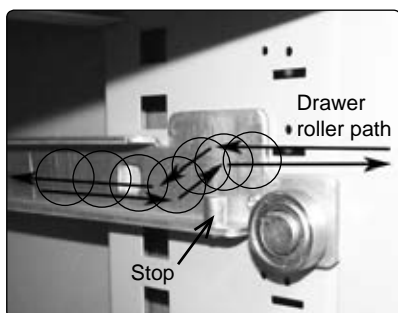
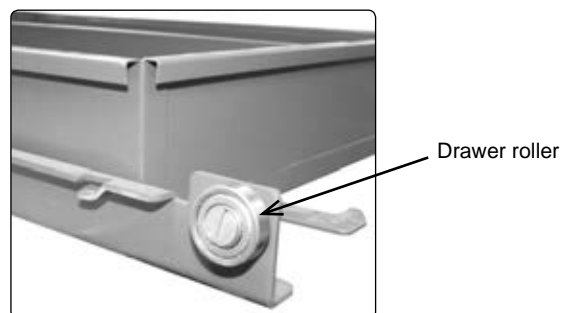

fig.2
fig.3
- 5.1.1. Unlock the drawer if required and open the drawer fully and squarely until it stops (fig.2 & 4). The ratchet catch, which safely holds the drawers shut, releases when the drawer handle is gripped. Remove the loose components, items 3,4,5 and 6.
- 5.1.3. Lift the drawer and withdraw. See fig.2 for drawer roller path and fig.3 for the drawer roller.
- 5.3.3. Locate the drawer rollers (fig.3) with the enclosure runners (fig.2) and slide the drawer/drawers fully back into the enclosure. Generally the reverse of removal. **DO NOT** force at any stage.